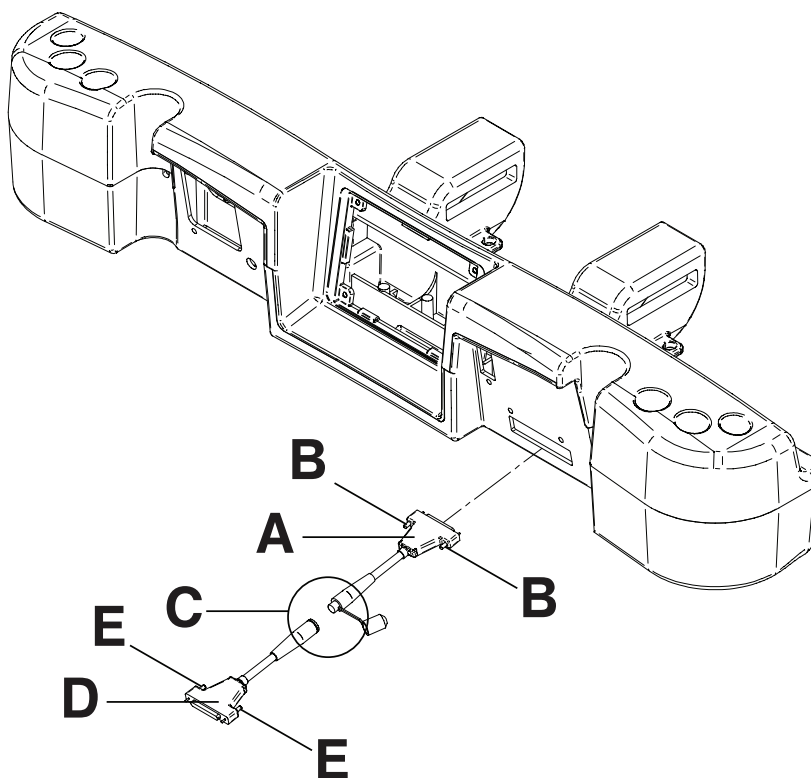

Figure 1-136: Wall saver connections
1. Insert the pin end of the first connector (A) into the head end of the product (Figure 1-136 on page 1-115).
2. Screw the connector fasteners (B) in to secure the connector to the product (Figure 1-136 on page 1-115).
3. Connect the back end of the second connector into the back end of the first connector (C) (Figure 1-136 on page 1-115).
4. Insert the pin end of the second connector (D) into the wall (Figure 1-136 on page 1-115).
5. Screw the connector fasteners (E) in to secure the connector to the wall (Figure 1-136 on page 1-115).